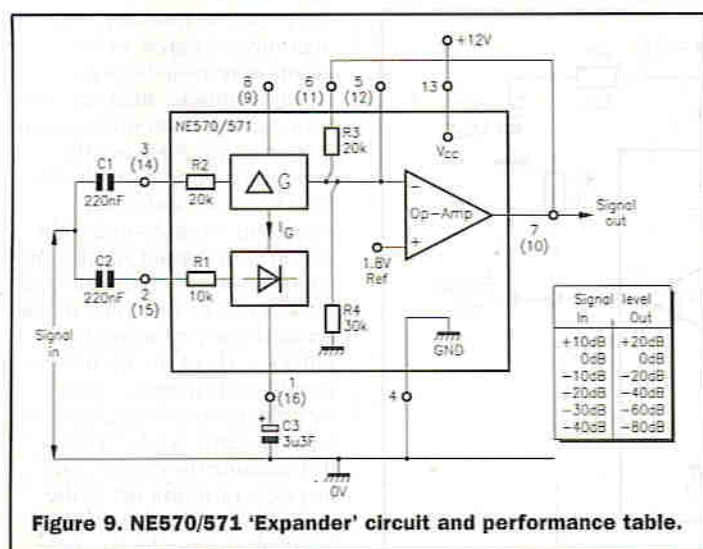

Figure 9. NE570/571 'Expander' circuit and performance table.
Figure 9 shows a practical NE570/571 'expander' circuit and its performance table. Here, the input signal is fed to both the rectifier and the variable gain block, and their action is such that circuit gain is directly proportional to the average value of the input. Thus, if the input rises (or falls) by 6dB, the gain also rises (or falls) by 6dB, so the output rises (or falls) by 12dB, giving a 1:2 expansion ratio. Note in this circuit that (because of the R3 and R4 ratios), the op-amp output takes up a quiescent value of 3V, and can thus supply only modest peak output signals. If desired, the output can be raised to 6V (giving a corresponding increase in peak output levels) by wiring a 12kΩ resistor in parallel with R4 via pins 5 (or 12) and 4, or a 51kΩ one in series with R3 via pin 6 (or (11)).